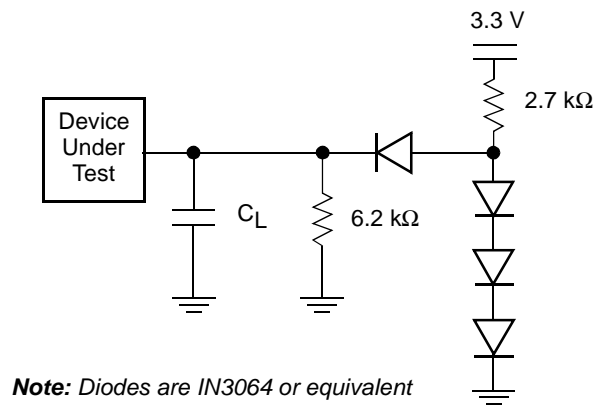

Figure 9. Test Setup
2. See Figure 9 and Table 11 for test specifications.